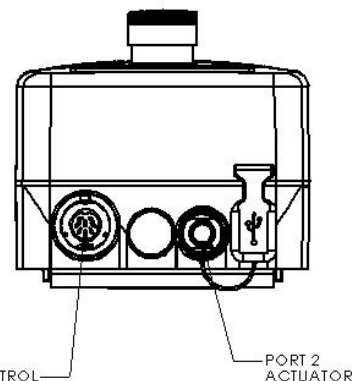

Figure 4B. Control Box Plug Installation
9. Remove the hand control from accessory carton and unwrap. Insert hand control plug into large socket on the LiftOperator control box shown in **Figure 4B**. Next, install that the actuator plug into the socket shown in **Figure 4B**.